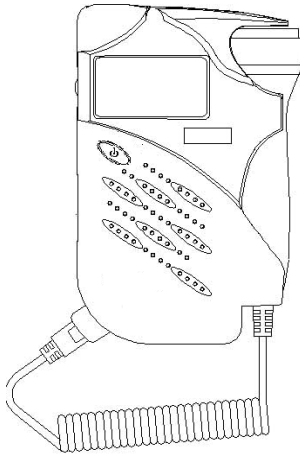

Figure 4-1
- 1) Hold the main unit with one hand, and hold the top of the probe with another hand (Figure 4-1).